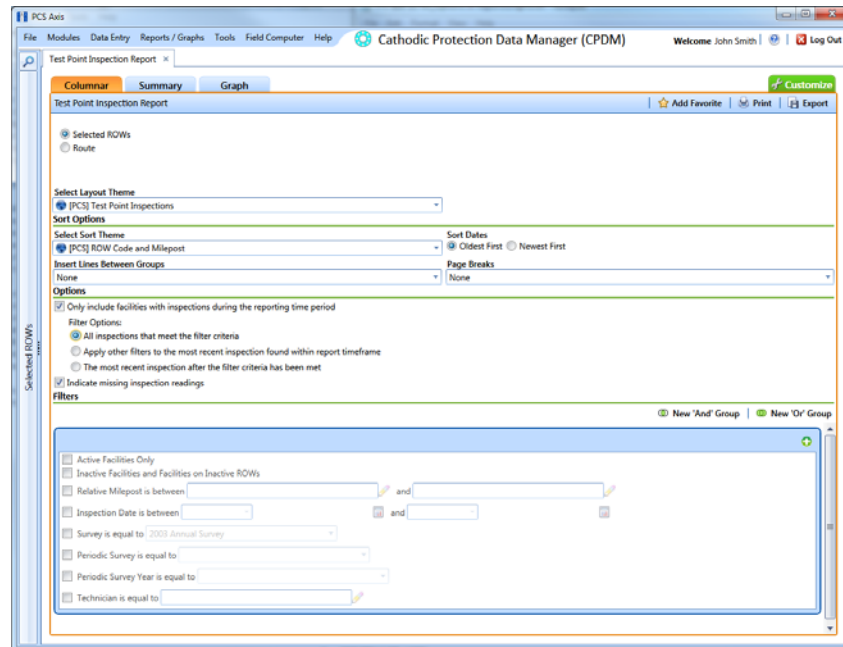

Figure 14-22. Test Point Inspection Report
- 2 Click **Reports/Graphs** and then select a report in the menu to open a window with report property settings. If the *Columnar* property settings window is not visible, click the **Columnar** tab  to open the window (Figure 14-22, page 554).
The following figure shows an example of the *Columnar* property settings window for the *Test Point Inspection Report* (Figure 14-22, page 554).